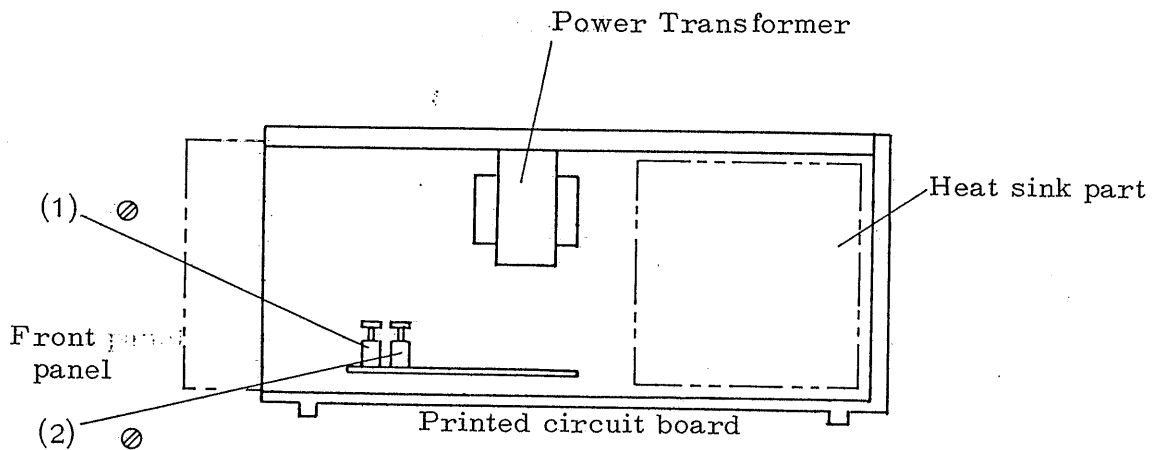

Fig. 9
With the output voltage control on panel turned fully counterclockwise, adjust the semi-fixed resistor in the printed circuit board (Fig. 9 (1)).